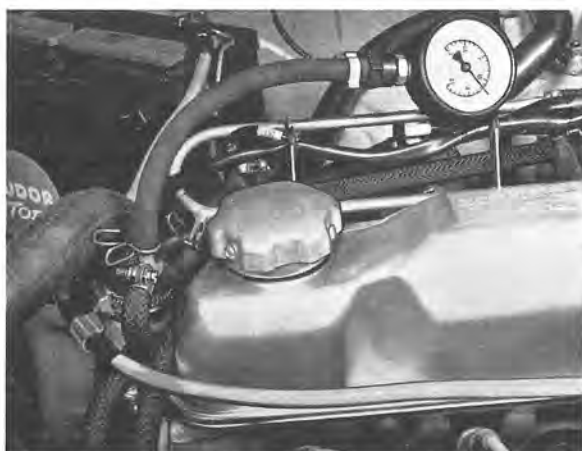

Fig. 2-139. Connecting pressure gauge
2. Connect up a pressure gauge according to Fig 2-139.